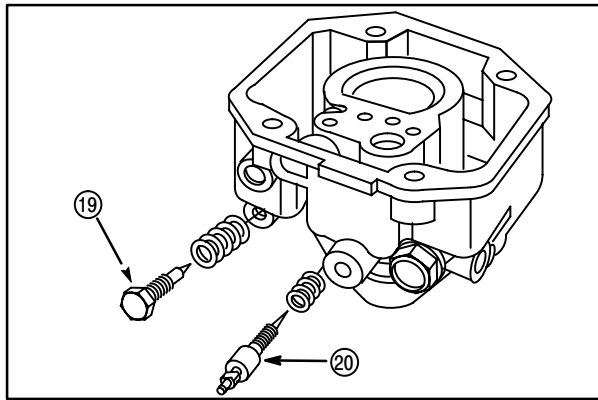

Fig. 110
16. Install bowl drain screw (19) and spring, **Fig. 110.**
17. Install idle mixture screw (20) and spring. **DO NOT** tighten screw. **DO NOT** install limiter cap at this time.